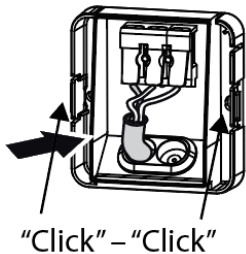

Fig.3
- Align rear of the fitting with the mounting bracket and secure into place ensuring a double click is heard from the securing clips to indicate the fitting is fully secured to the bracket. (see Fig.3)